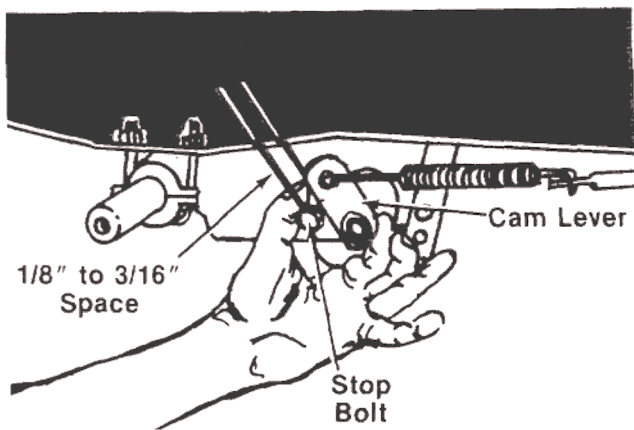

FIGURE 21.
2. Loosen the inside nut until the cam lever can be pushed forward so that there is a 1/8" to 3/16" space between the cam lever and stop bolt. See figure 21.